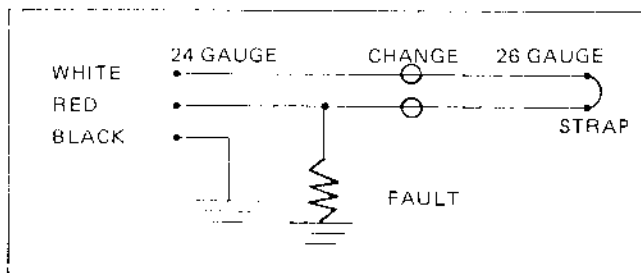

Figure 12
(A) If a gauge change occurs in a section of cable under test and the fault is between the Model 210 and the splice, only the distance to fault measurement will be correct (Figure 12).